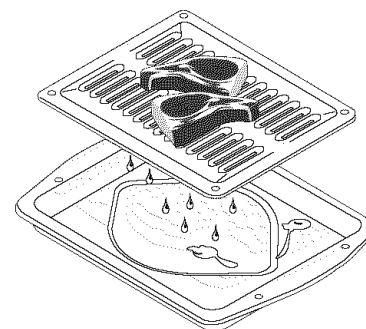

Fig.1 (some models)
Speed Bake™ Cooking System uses a fan to circulate the oven's heat uniformly and continuously around the oven. This improved heat distribution allows for fast, even cooking and browning results. It also gives better baking results when using two racks at the same time (See Fig. 1).
5. Place the insert on the broil pan (if equipped), then place the food on the insert (if equipped; See Fig. 1).